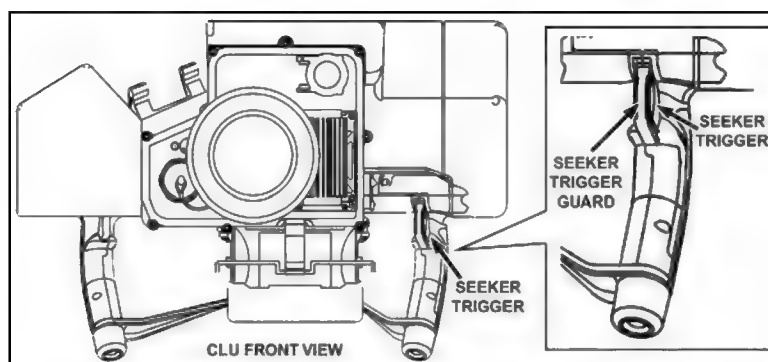

Figure 2-5. Left handgrip controls—seeker trigger.
(5) **Seeker Trigger**. The seeker trigger is the trigger located on the finger grip (front) side of the left handgrip (Figure 2-5). This trigger activates the seeker, locks the seeker onto the target, and enables the *fire trigger*. A trigger guard protects against accidental activation.